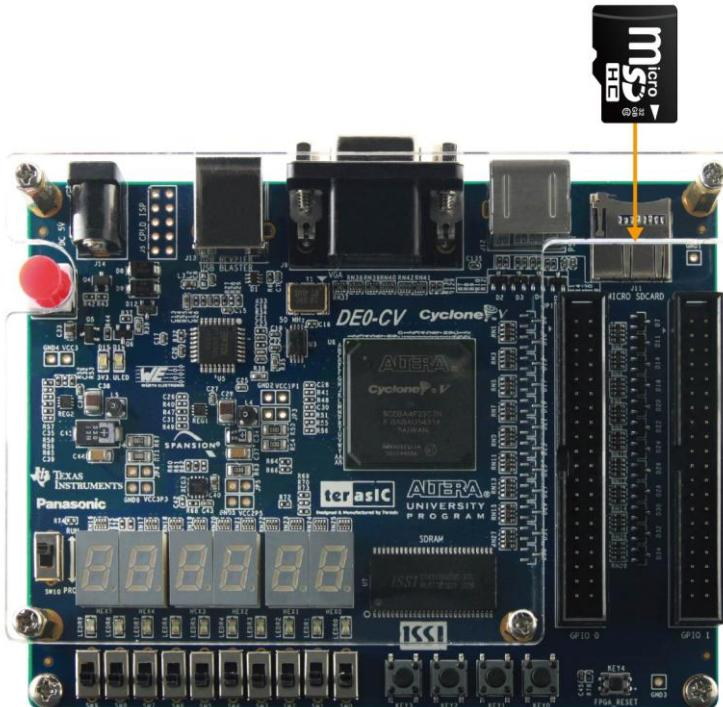

Figure 5-9 Insert the Micro SD card into DE0-CV
- Insert the Micro SD Card into the SD Card socket of DE0-CV, as shown in **Figure 5-9**.